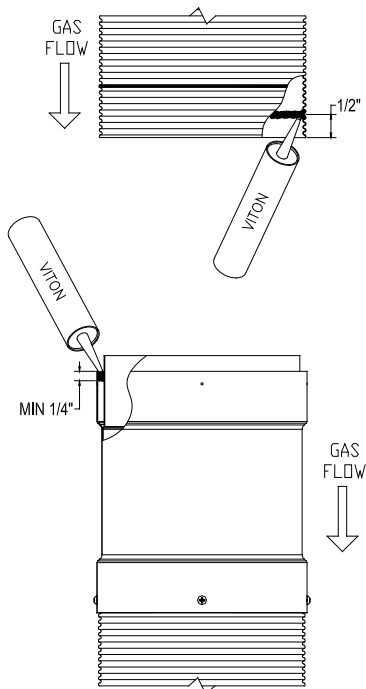

Figure 22 - SecureSeal Flex Viton® caulking
3.2. Add another bead of Viton® caulking at 1/2" from the edge of the flexible liner all around the inner side of it (**Figure 22**).